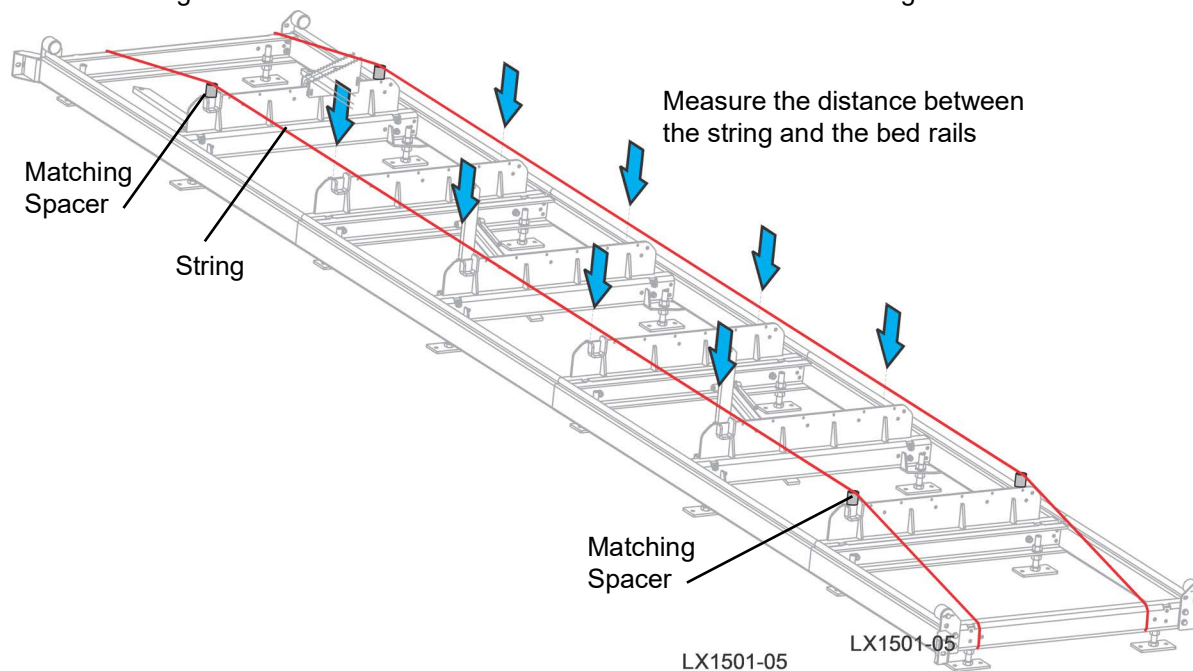

FIG. 3-12
2. Run a string from the front bed rail to the rear bed rail near the operator's side of the frame. See Figure 3-12.